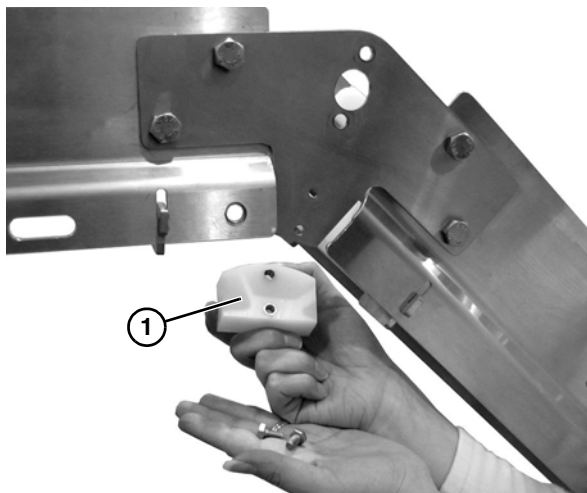

**Figure 74**
- Remove spacer (**Figure 74, item 1**), rollers (**Figure 74, item 2**) and tube spacers (**Figure 74, item 3**) from shaft.